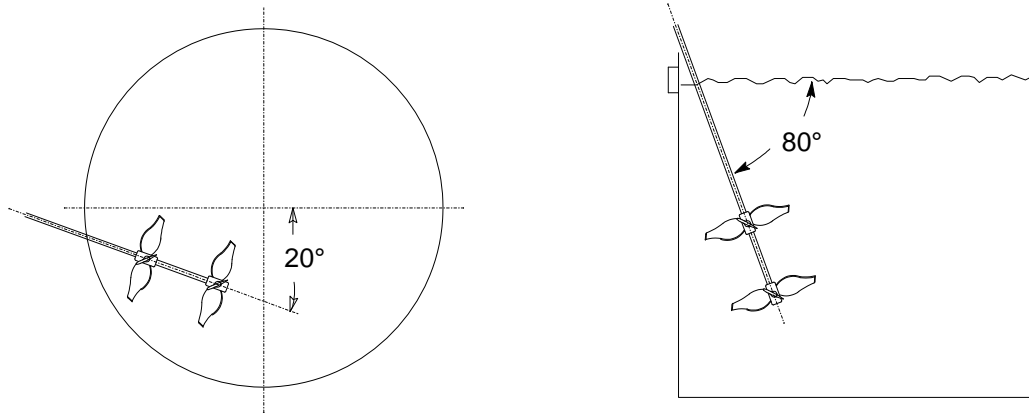

FIGURE 3
- 2.5 Refer to Figure 3 for recommended angular positions.